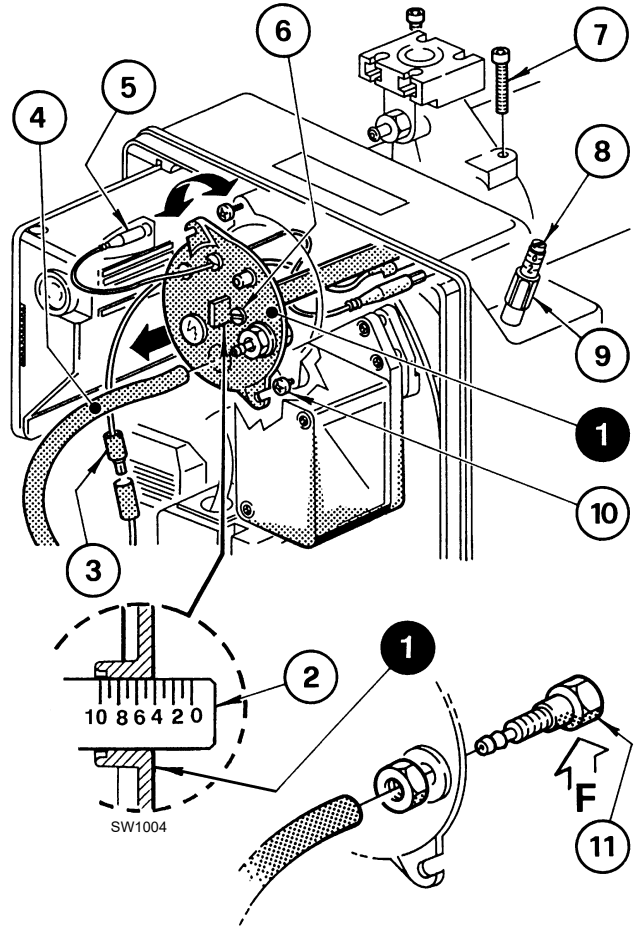

Fig. 11
This is carried out by turning the adjustment screw 6)(Fig. 11) clockwise or anti-clockwise until the notch on the regulating rod 2) lines up with the outside surface of the head assembly 1).
In Fig. 11 the head regulating rod is set to notch 4.
To remove the head assembly (Fig. 11) it is necessary to:
Reassemble with the reverse procedure to that described above, repositioning the head assembly 1)(Fig. 11) as it was originally.
Screw in the screws 7)(Fig. 11) all the way without locking them. Lock them with a tightening torque of 3 - 4 Nm.
If the pressure test point (11) should become slack accidentally (Fig. 11) we recommend fixing it correctly ensuring that the hole (F)(Fig. 11) inside the head assembly 1)(Fig. 11) is facing downwards.